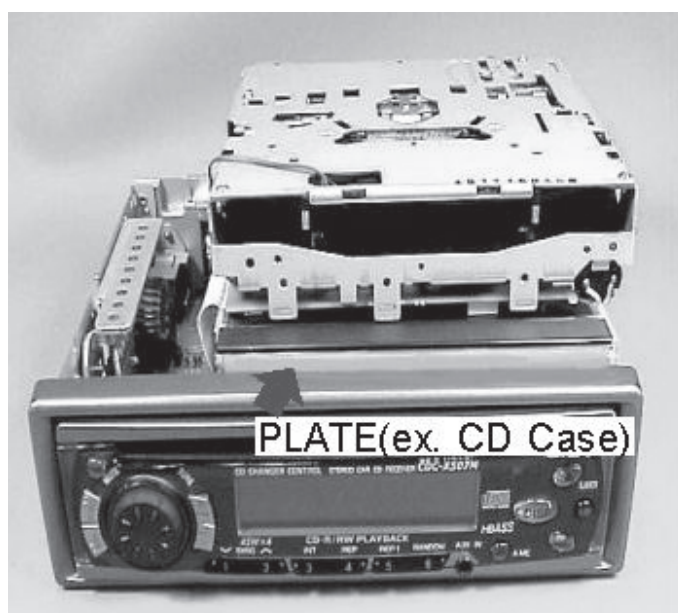

Fig. 2
- Put the DFP onto the CD CASE to fix it. (Fig. 2)